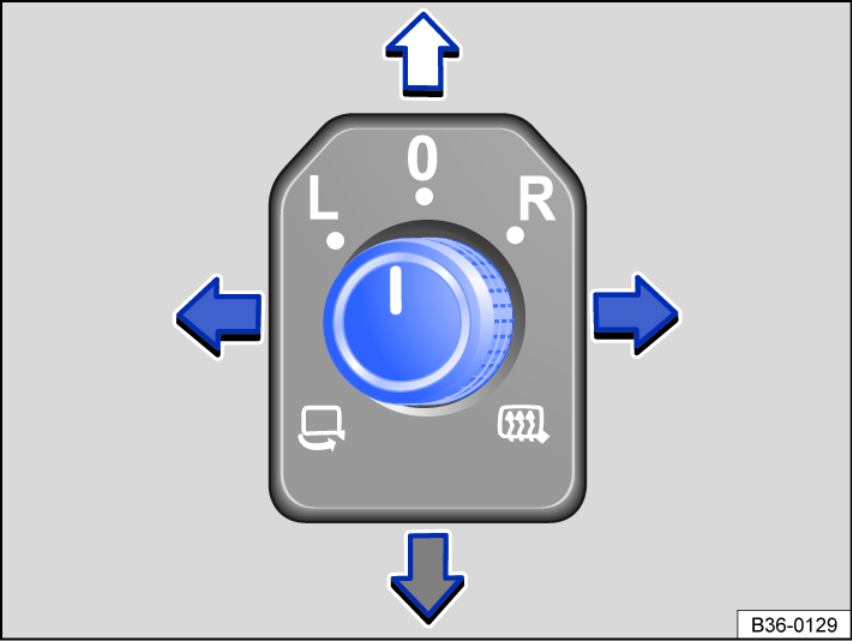

Fig. 101 In the driver door: knob for the outside mirrors.
- Turn the knob in the driver's door to the desired symbol *fig. 101*.